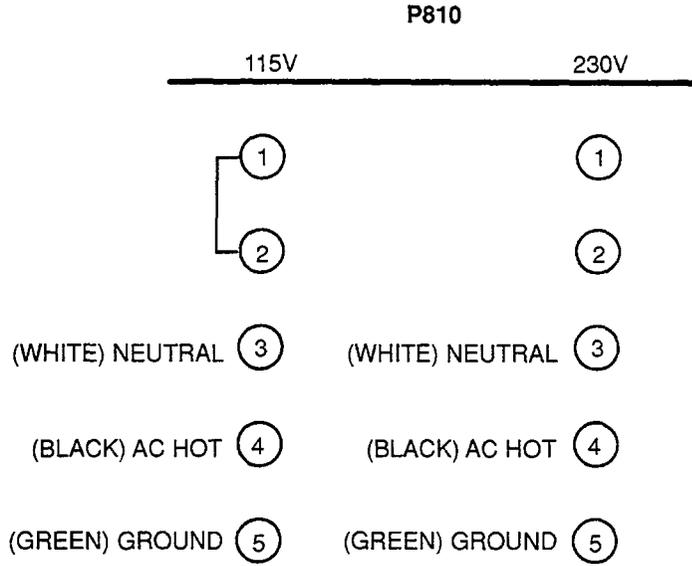

Figure 34 P810 Power Supply Terminal Strip
- Step 3** Wire AC input connector as shown in Figure 34.